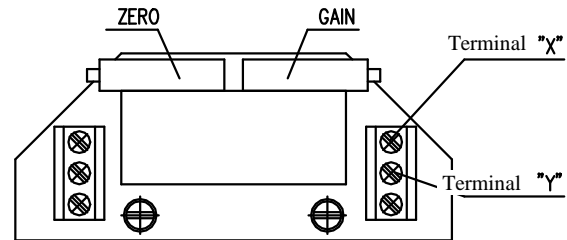

Fig. 7
#### 4.4.2 EPV – 3-wire version (Fig. 7,7a)
- Adjust the resistive transmitter according to the previous chapter. The resistance is to be metered on the terminals X-Y (Fig. 7,7a). The used transmitter resistance is 2000W or 100 W.